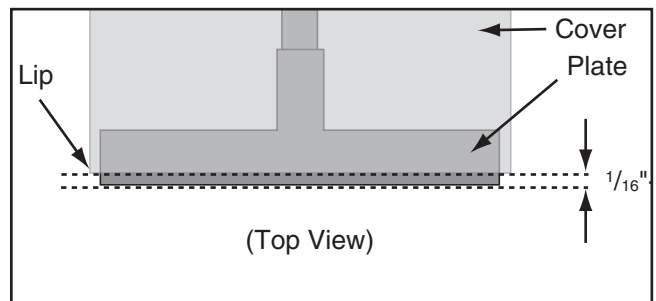

Figure 28. Gap between plate and cover.
- Adjust the cast iron plate so it protrudes slightly ($\frac{1}{16}$ "- $\frac{1}{8}$ ") beyond the curved lip of the metal cover on both sides, as illustrated in **Figure 28**, to avoid the possibility of workpieces hitting the cover during sanding operations.